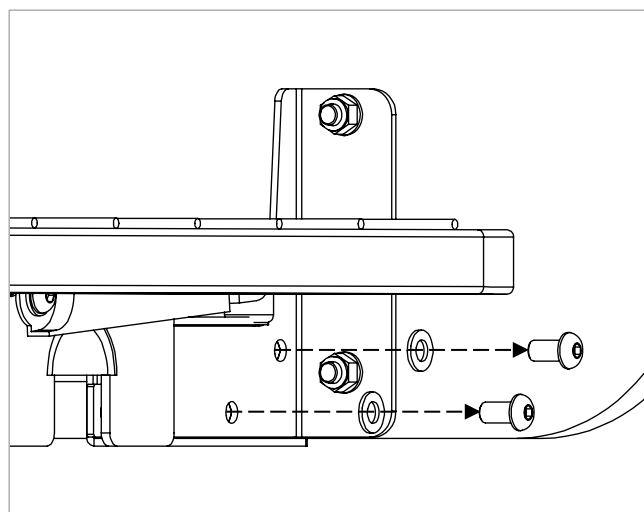

Figure 12.1
1. Undo the bolts shown in Figure 12.1 on each side of the bed at the foot end and retain the bolts and washers.